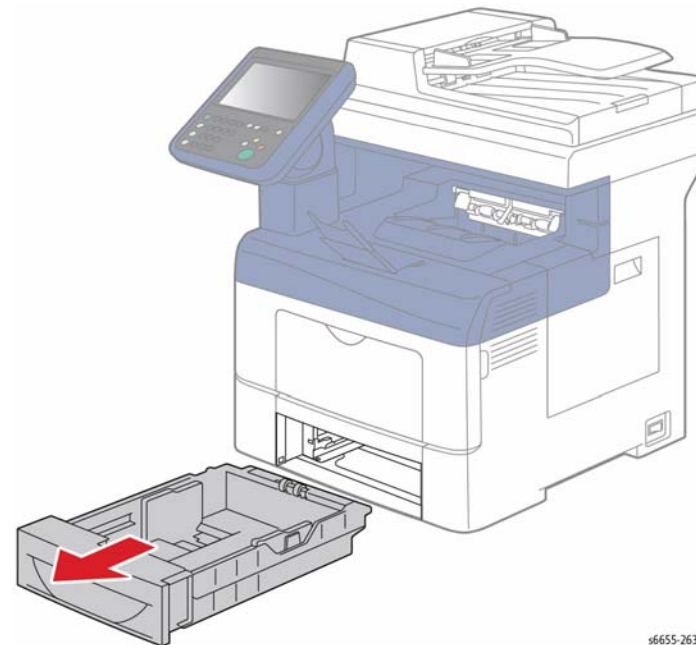

Figure 2 Remove Paper from the Paper Tray
6. Remove the paper from the paper tray, Figure 2. Keep the paper wrapped and away from humidity and dirt.